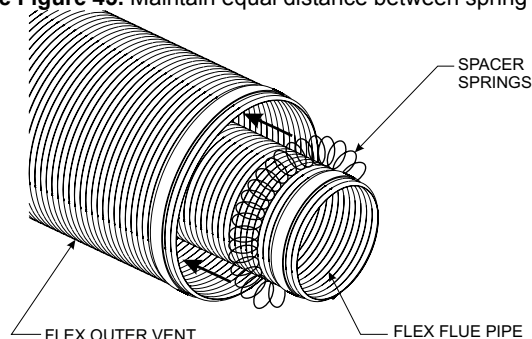
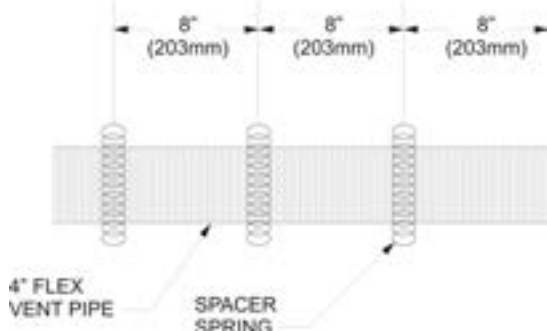

Figure 44
Figure 45
2. Check to see that the vent spacer springs are located around the flue vent at 8" and 12" intervals along its length. **See Figure 44.** If not, stretch the spacer springs to about 15" long and wrap them around the flue, then interlock the ends of each spring about 2". **See Figure 45.** Maintain equal distance between spring spacers.
Finishing The Wall For DF41W Series, DF41EHPBL, DF414BL Decorative Front With Finishing Materials Less Than 1 in. (25.4mm) Thick - Figure 45